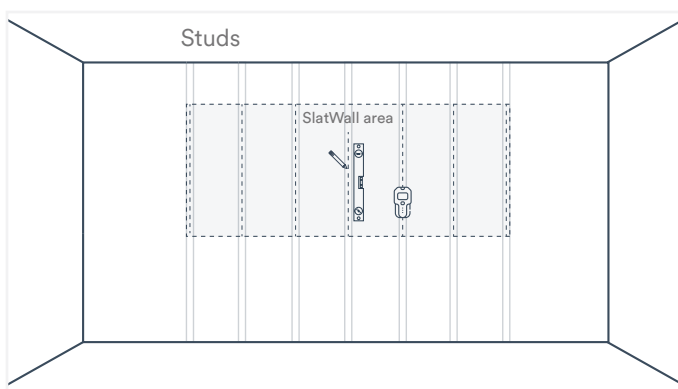
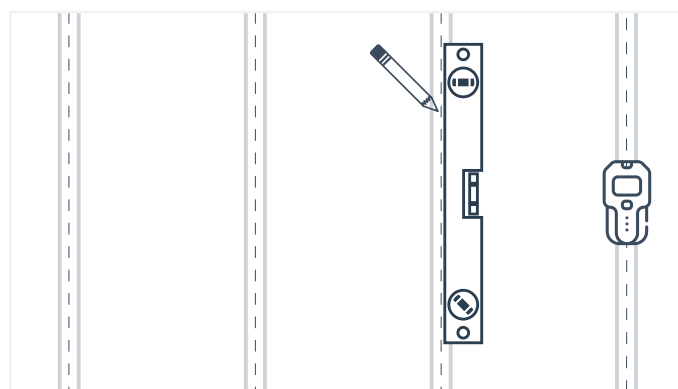

Fig. 17
Fig. 18
2. Inside the SlatWall installation area, locate and mark each wall stud using a stud finder (Fig. 17). Use a level and a pencil to mark each stud from the top to the bottom of your installation area, ensuring each line is plumb (Fig. 18).